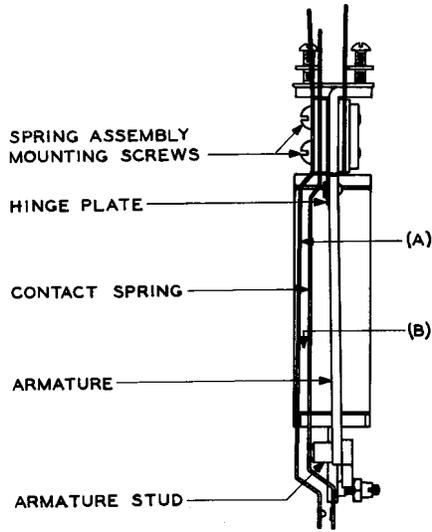

Fig. 9 - A-type Relay - Top View
2.12 Straightness of Springs: Fig. 9(A) - All springs, from the point where they leave the assembly clamping plates and insulators, to the ends of the springs, shall be free of sharp bends or kinks due to adjustment, but a gradual bow in the springs is permissible.
2.13 Separation Between Springs: Fig. 9(B) - There shall be a clearance between adjacent springs whether in the operated or unoperated positions of the relay of: